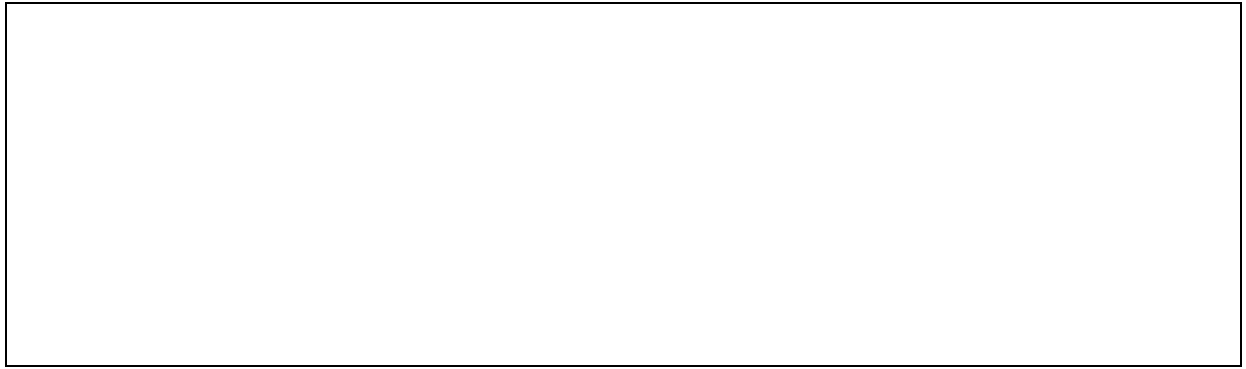

Figure 15
Turn Center Screw clockwise until there is 1/4 inch clearance between the lower plate and locating plate (Figure 15). Check clearance on all four (4) sides with a 1/4 inch thick shim.